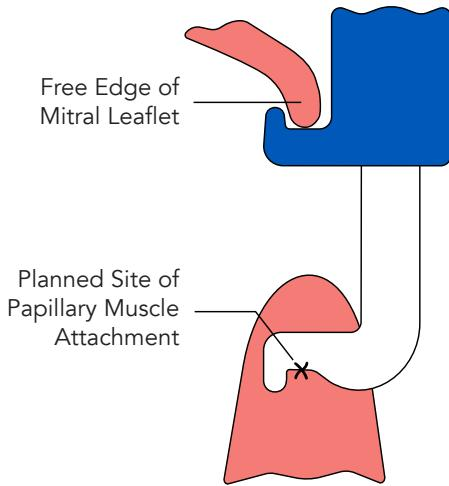

Figure 2:
- Use the thumb-slide to extend the papillary hook to the planned site of attachment to the papillary muscle as shown in Figure 2.